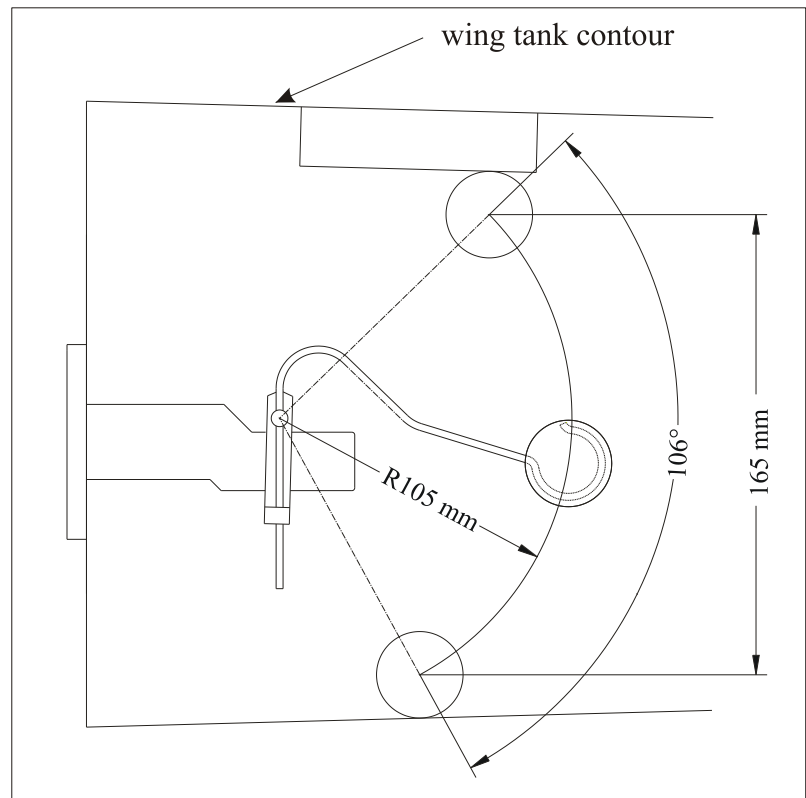

Figure 15 *Float Wire Installation*
- 3 Reinstall the float wire observing the dimensions shown in Figure 15, pay attention to a proper alignment and tighten well the attachment bolt.